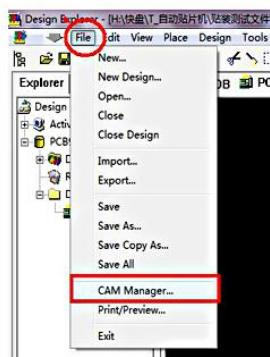
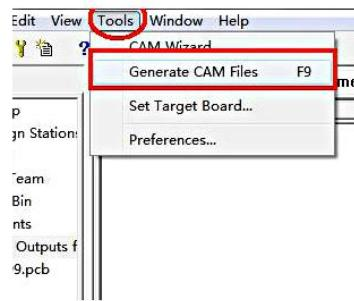
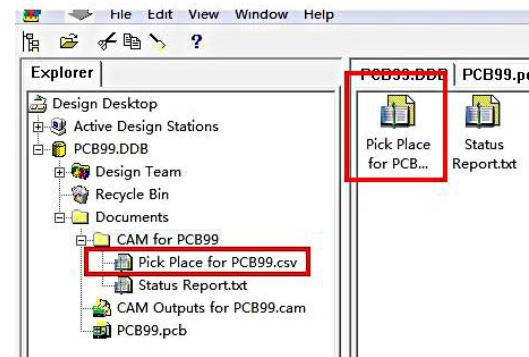

Figure 3.2.5
Figure 3.2.6
Figure 3.2.7
Step 2: as shown in Figure 3.2.5, firstly selecting CAM Manager with left click, deriving the coordinates according to steps of Figure 3.2.8, and finding the file according to Figure 3.2.6 and Figure3.2.7; the file has the name suffix of .csv.